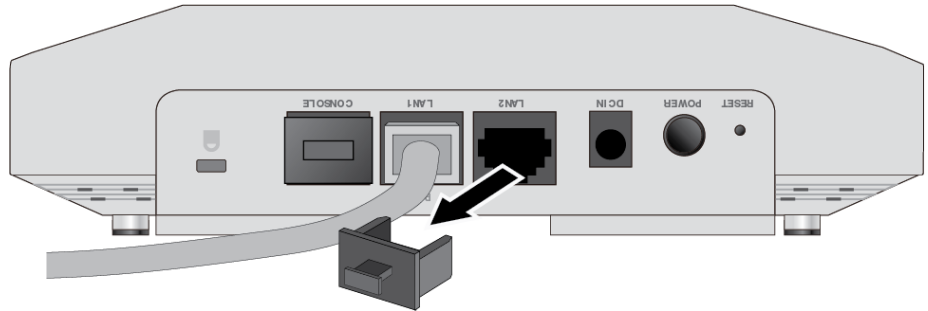

Figure 21. Removing the Dust Plug from the LAN2 Port
- a. Remove the dust plug from the port. Refer to Figure 21.